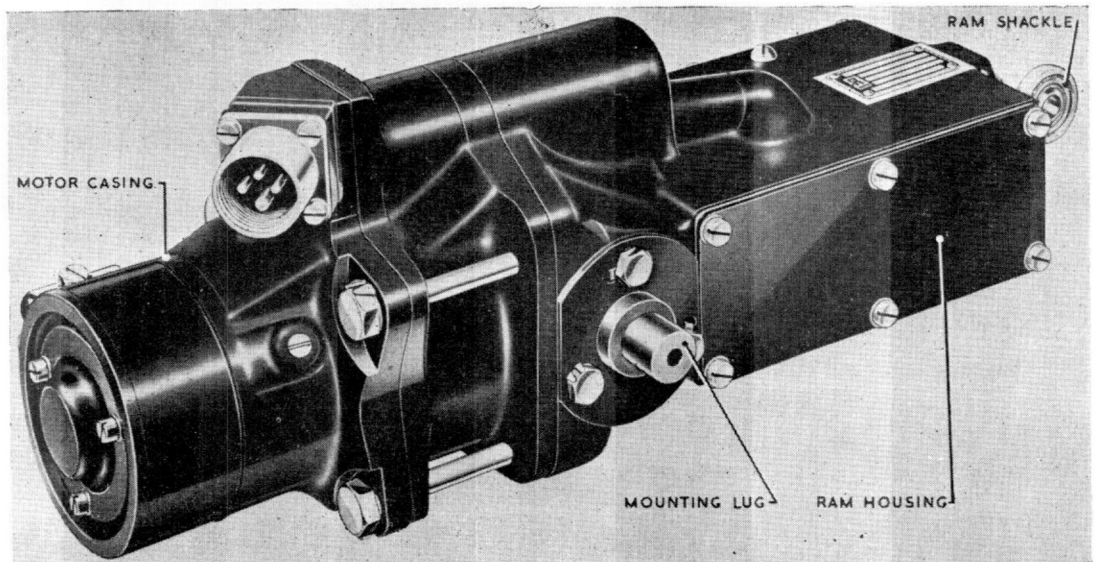

Fig. 1. A typical actuator in the A1300 series
A typical actuator in the A1300 series ... Fig. 1
2. A typical machine of the A 1300 Series of linear actuators is illustrated in fig. 1. These machines are of "in-line" design, with the motor and ram on the same axis, and incorporate a screwshaft of truncated Whitworth form. Mounting is made by two mounting lugs provided on the sides of the actuator. The 28-volt motor drives the ram via a 3-stage epicyclic gearbox, and its rating is continuous at an operational cycle of two seconds on and six seconds off. Between the motor and gearbox is a drum-type electro-magnetic brake and a single plate phosphor bronze clutch.